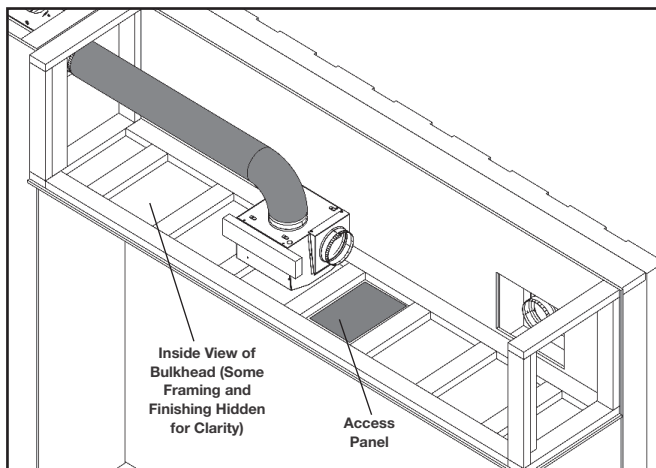

Fig. 3
3. Attach the hot air exhaust assembly to the exterior wall by securing the wall flashing with appropriate fasteners (not supplied) (**Fig. 3**).
3. Install 6" steel ducting (not supplied) from the appliance enclosure to the blower housing assembly inlet (Fig. 3).